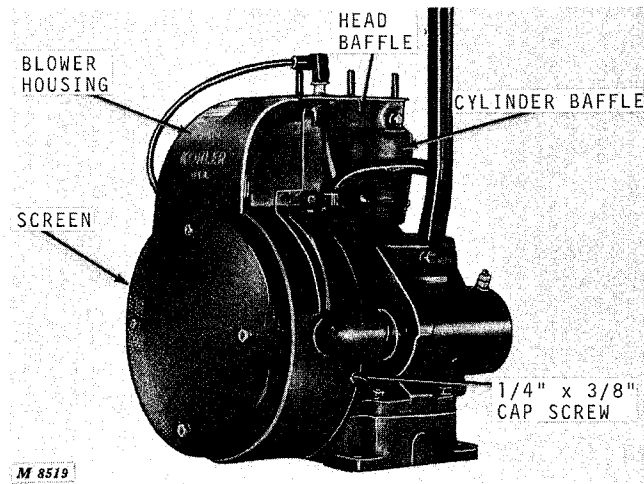

Fig. 51-Installing Engine Shrouding
**IMPORTANT:** Be sure to install the 1/4 x 3/8-inch cap screw in the position shown in Figures 51 and 52. A longer cap screw will strike the flywheel.